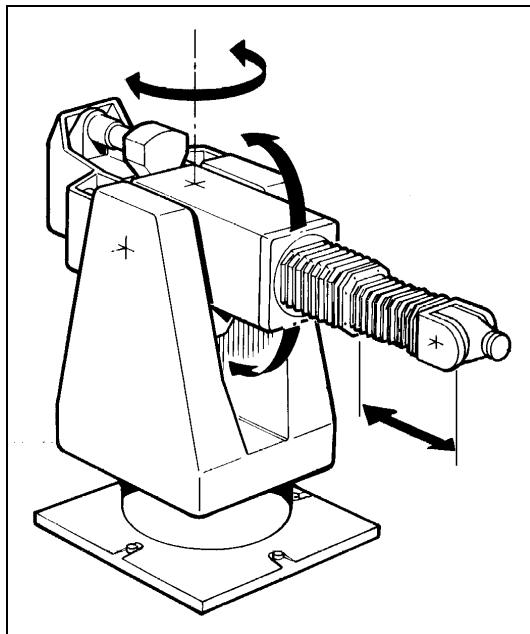

Figure 8-6
- ◆ **Spherical Robots:** A spherical robot, shown in Figure 8-6, has two revolute joints and one prismatic joint and is designated as RRP.